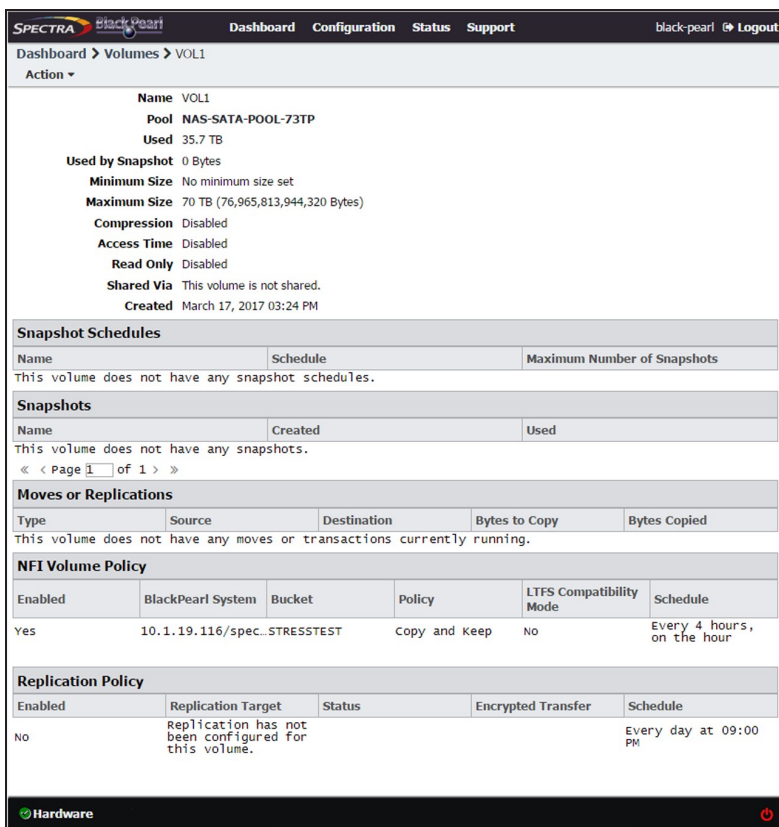

Figure 93 The Volume details screen.
1. On the Volume details screen (see Figure 93 on page 165), select **Action > New Snapshot Schedule**. The New Snapshot Schedule dialog box displays.
- On the Volume details screen (see Figure 93 on page 165), select **Action > New Snapshot Schedule**. The New Snapshot Schedule dialog box displays.